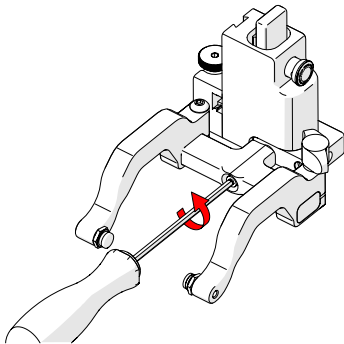

Fig. 178 - Remove yoke
1. Using the supplied 3 mm driver, unscrew the yoke (Fig. 178).